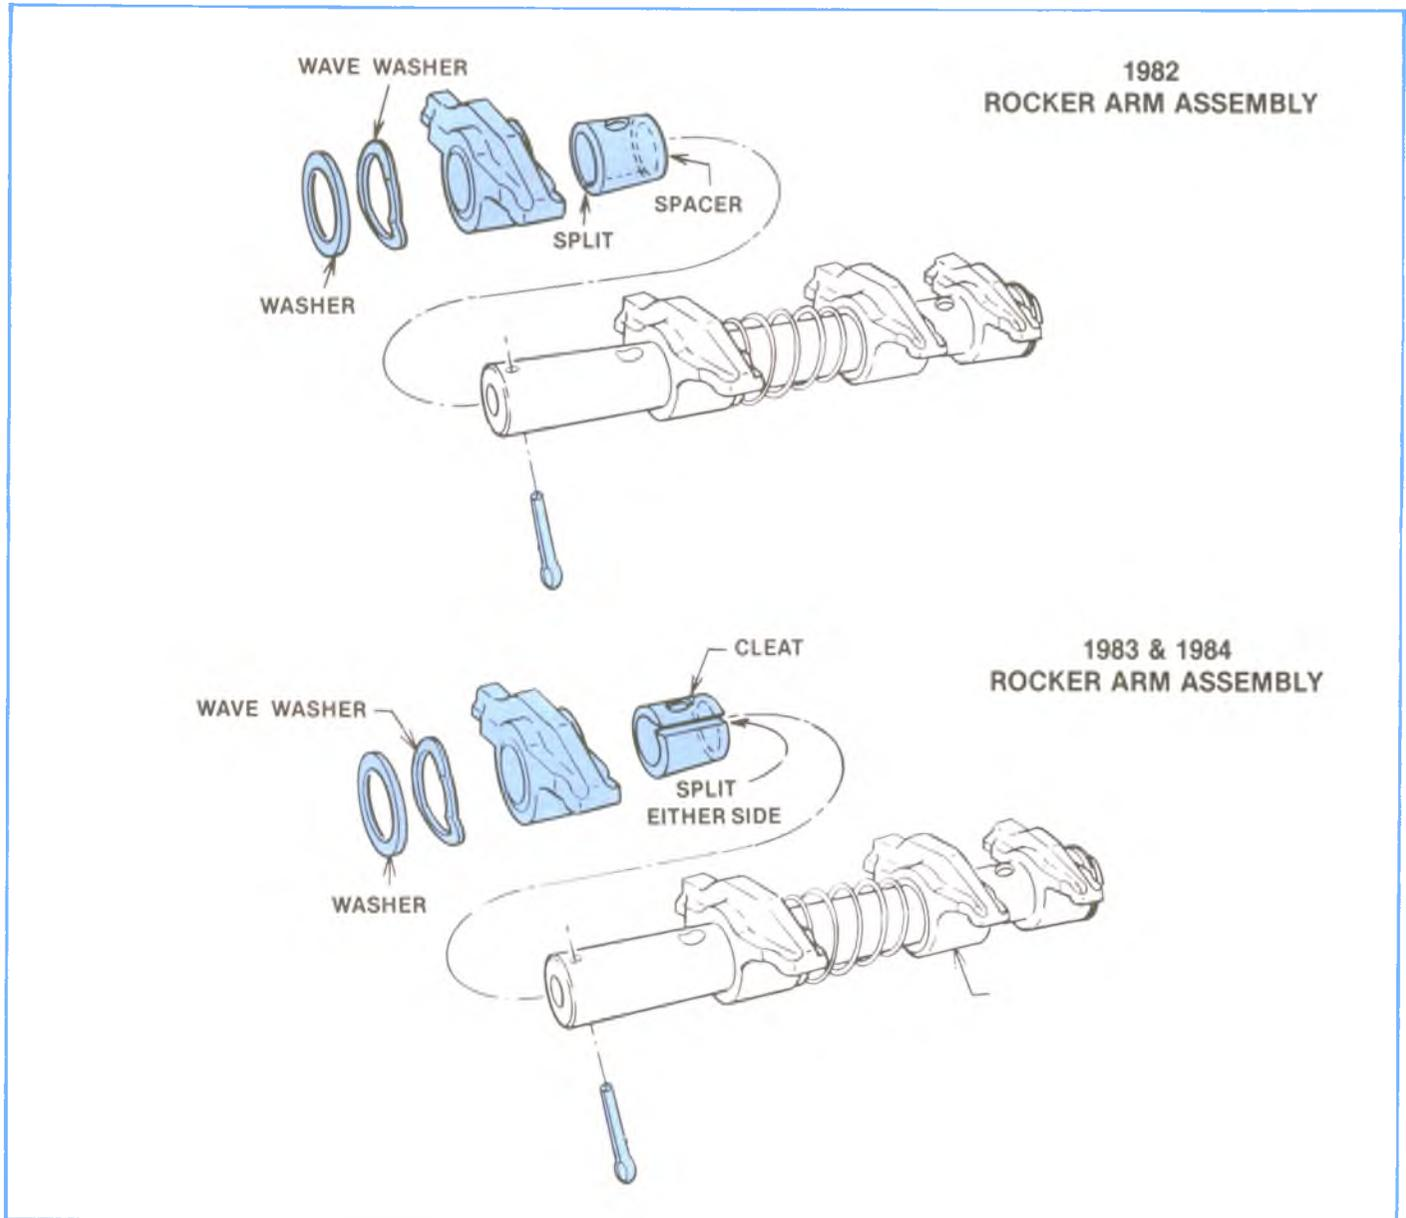

Figure 2-10, 1982-84 Rocker Shafts.
3. Before installing bolts through shaft be certain that ring around shaft is installed with "split" at bottom (See Figure 2-10) on 1982 models. On 1983 and later the split is  $90^\circ$  to the right. On 1985 and later no split ring is used.